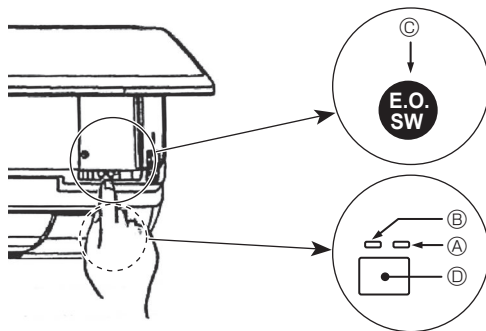

Fig. 5-2
- [Fig. 5-2] ① DEFROST/STAND BY lamp (Orange)
② Operation lamp (Green)
③ Emergency operation switch (cooling/heating)
④ Receiver
- Check "COOL/HEAT" with the operation monitor display. (The orange lamp ① follows this monitor display for 5 seconds after pressing the emergency operation switch.)